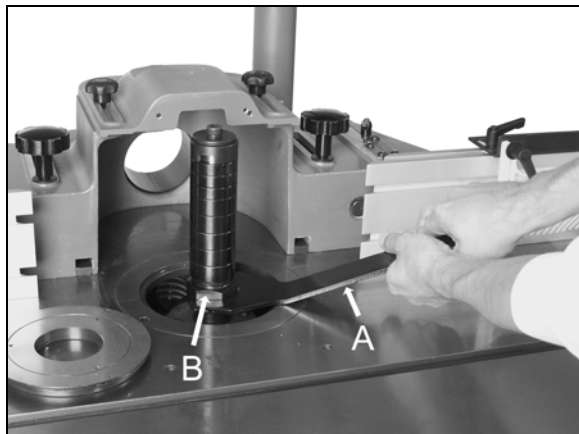

Figure 9
7. Use the supplied spanner wrench (G, Figure 9), to tighten the special nut (H, Figure 9).